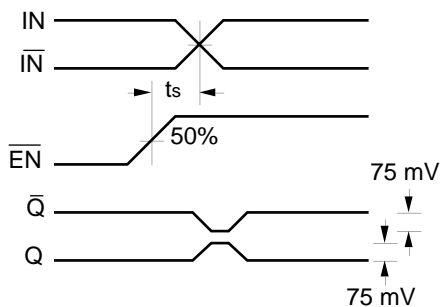

Figure 1. Set-up Time
5. The set-up time is the minimum time that \overline{EN} must be asserted prior to the next transition of IN/ \overline{IN} to prevent an output response greater than ± 75 mV to that IN/ \overline{IN} transition (see Figure 1).